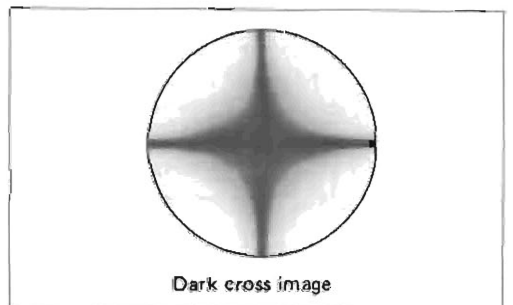

Fig. 13
- 4) Remove the eyepiece from the sleeve. Observing the exit pupil of objective inside, rotate the dia-polarizer so as to form a dark cross image on the exit pupil as shown in Fig. 13.